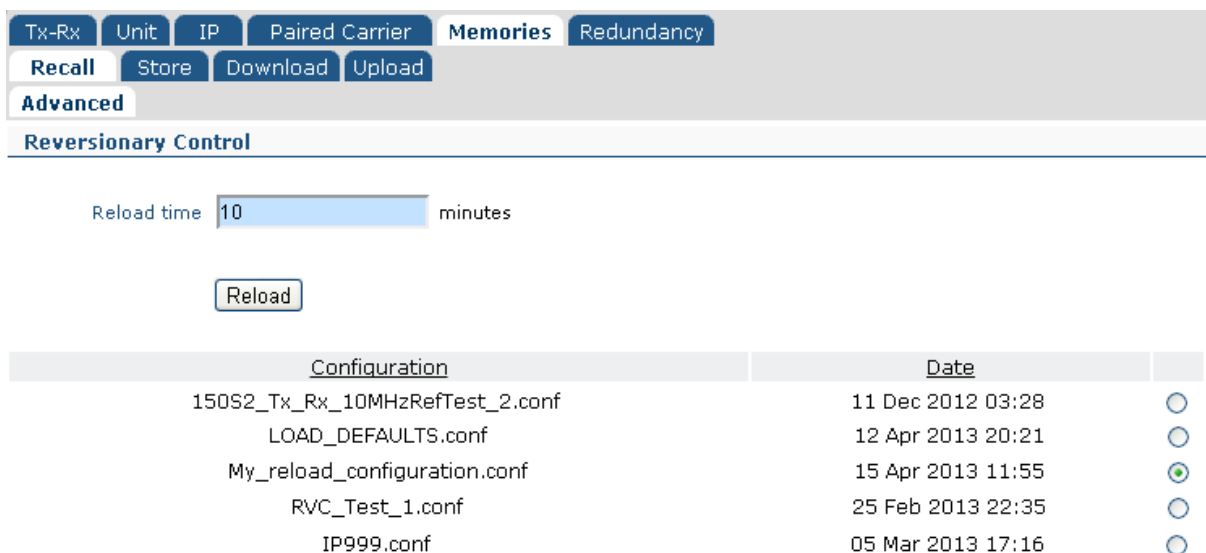

Figure 6-29 Edit->Memories->Advanced Reversionary Control Screen
The *Edit->Memories->Recall->Advanced* screen (shown in **Figure 6-29**) supports a method for recovering a remote modem from a failure during a change to the modem's configuration. In essence, this works in a similar way to the Cisco Reload command, where a known trusted configuration is loaded after a defined timeout period in the event that the reload operation is not cancelled by the operator in a timely manner after completing the necessary configuration changes.
6. After completing the configuration changes, navigate back to the *Edit->Memories->Recall->Advanced* screen and cancel the timeout by clicking on the *Cancel* button. The screen will now revert to its original format shown in **Figure 6-29**.
The *Edit->Memories->Store* screen (shown in **Figure 6-29**) allows the current modem configuration to be stored to a configuration memory under a given name. It also displays all of the configurations that are already stored on the modem. The *Delete* button can be used to delete a specific configuration memory.